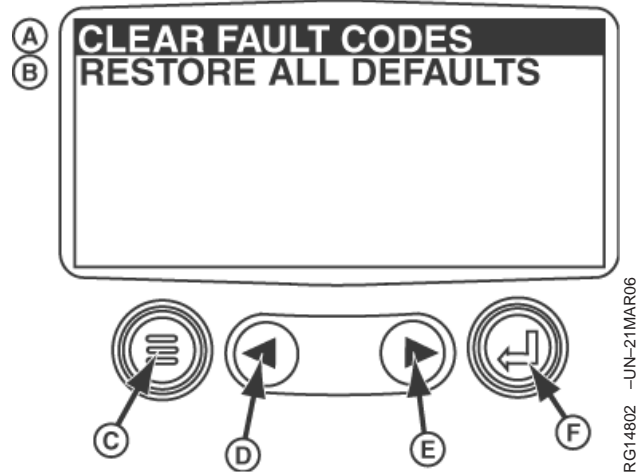

Figure 1. Clear Faults Restore Defaults
2. Turn power on to diagnostic gauge. As soon as screen backlight comes on, simultaneously press and hold menu (C) and enter (F) keys. A menu appears (See figure 1.) on the screen with the following options: "Clear Fault Codes" (A); and, "Restore All Defaults" (B), with "Clear Fault Codes" item highlighted.